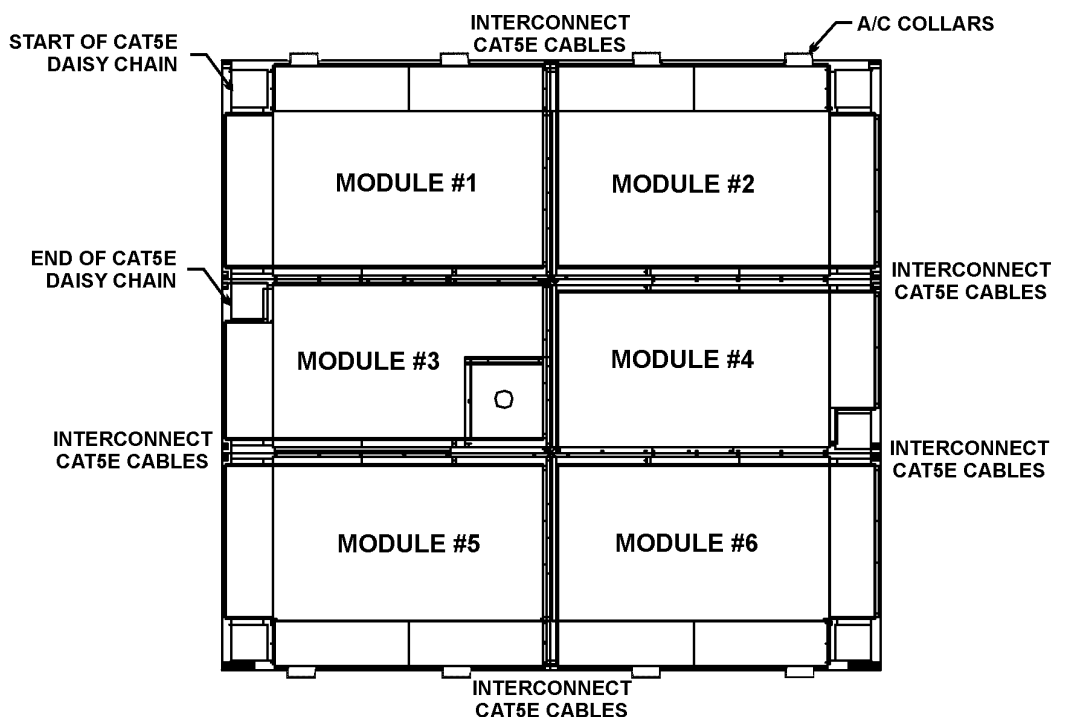

Figure 6: Module Interconnection Detail
- 6.2.1.2. Using two (2) lifts, raise Module #3 (Figure 6) with operating light cutout to desired operating height.